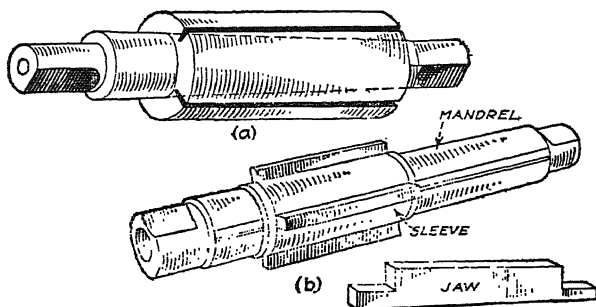

FIG. 109.—Two types of expansion mandrels.
*Expansion mandrels* of various types are manufactured. These mandrels are expensive and are not so accurate as the solid ground mandrel. *Taper mandrels* with cast-iron expansion bushings, (a) Fig. 109, are extensively used, especially in the larger sizes. Do not try to force the bushing to bind in a hole that is oversize or it is likely to ruin the bushing.
Another form of expansion mandrel is shown in (b) Fig. 109. It consists of the mandrel proper which has four or more grooves cut lengthwise uniformly deeper toward one end; a sleeve with slots opposite the grooves in the mandrel and of the same width; and the jaws which fit into the grooves of the mandrel and through the slots in the sleeve. The jaws taper in length to correspond to the incline of the slots and therefore bear evenly in a straight hole. The take-up or release is made by sliding the mandrel in the sleeve. The particular value of this mandrel lies in the fact that it may be